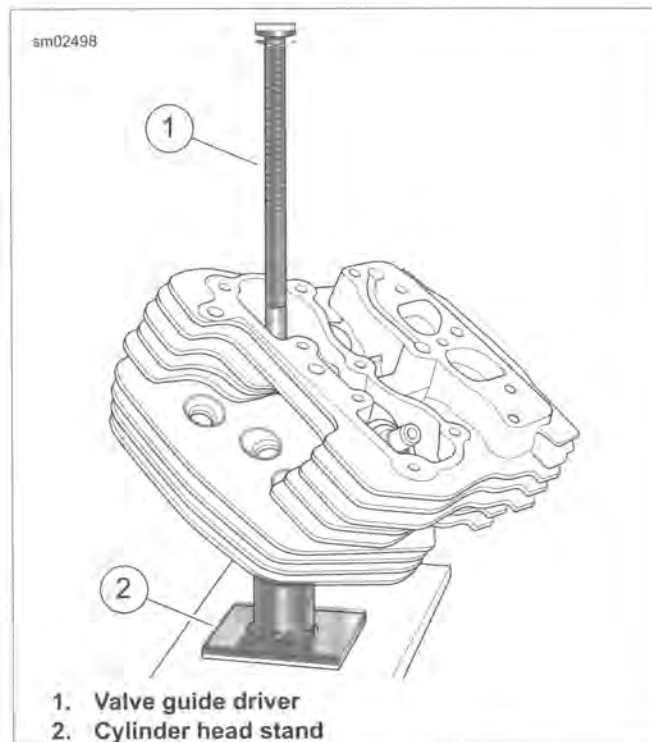

Figure 3-42. Remove Valve Guide
3. Insert VALVE GUIDE DRIVER (Part No. B-45524-1) (1) into valve guide bore.
4. See Figure 3-42. Center valve guide driver under ram of arbor press. Apply pressure until valve guide drops free of cylinder head. Discard valve guide.